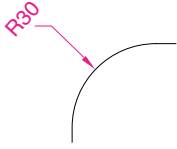

Fig. 6.9 A radius dimension at an angle of 45°
2. If the response is **a** (Angle), and an angle number is *entered*, the text for the dimension will appear at an angle. Fig. 6.9 show a radius dimension *entered* at an angle of 45°.